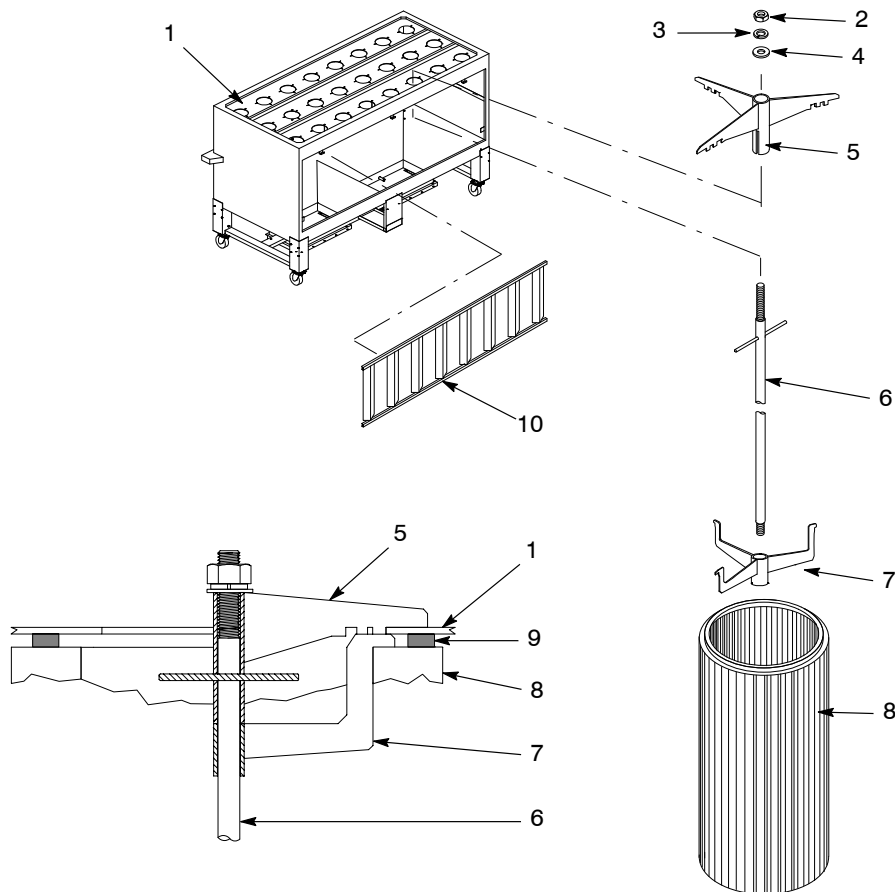

Figure 6-2 Cartridge Filter Replacement
1. See Figure 6-2. Thoroughly clean the sealing surfaces on the underside of the mounting plate (1). Dirty surfaces will prevent the cartridge filter gaskets from sealing properly and allow powder to leak into the fan section.
2. Insert the threaded end of the draw rods (6) through the centering brackets (7).
3. Install the draw rods and centering brackets in the new cartridge filters (8).
6. Use the T-handles to pull the cartridge filters up against the filter mounting plates. Install the filter mounts (5) on the draw rods, making sure the slots in the filter mounts slip over the T-handles.
7. Install the flat washers (4), lock washers (3), and nuts (2) on the draw rods.
9. Tighten the nuts until the filter mounts and centering brackets are touching. This will compress the filter gaskets (9) and seal the cartridges against the mounting plate.